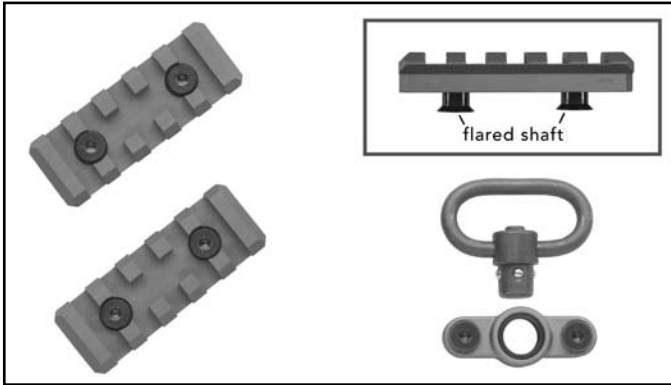
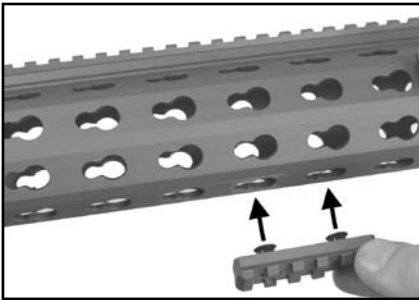

Fig. 75 – Rails segments and quick detachable sling hardware components
Fig. 76 – Position rail segment
1. Position the rail segment or component (Fig. 75) in the desired location on the slotted keyhole interface of the MRS and push in and slide to the rear, allowing the flared shaped shaft of the captive hex (Allen) screws to hold the segment or component in position (Fig. 76, 77, 78).